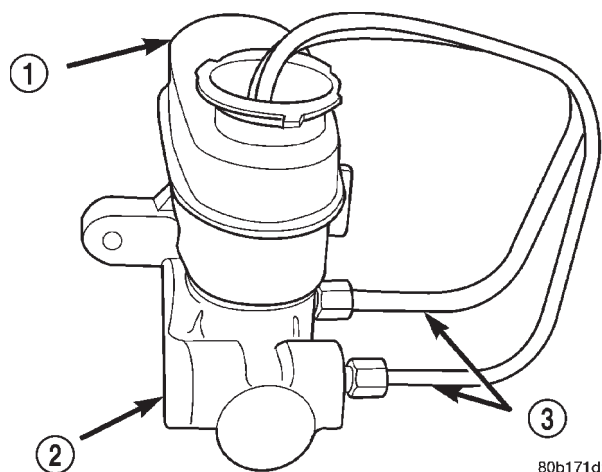
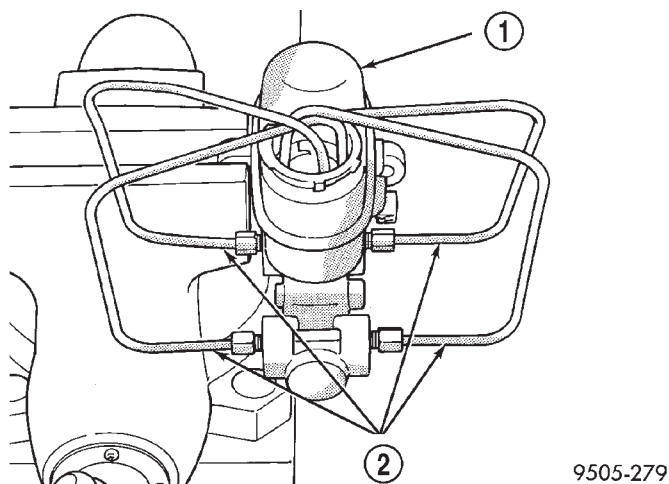

Fig. 56 Bleeding Tubes Attached to ABS Master Cylinder
Fig. 57 Bleeding Tubes Attached to Non-ABS Master Cylinder
(1) Clamp the master cylinder in a vise. Attach Bleeding Tubes, Special Tool 6802 to the master cylinder outlet ports (Fig. 56) (Fig. 57). **Position the bleeding tubes so outlets of the tubes will be below the surface of the brake fluid when reservoir is filled to the proper level.**